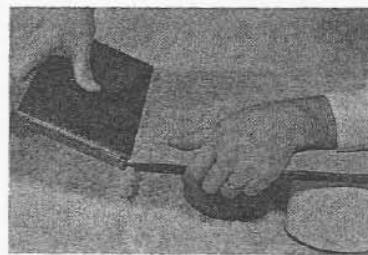

Figure 5A
- Apply gasket material to groove of decorative panel, (Figure 5). Align the thin tongue of the speaker baffle with the groove of the front decorative panel (Figure 5A) and press together being careful not to fray or loosen cloth.